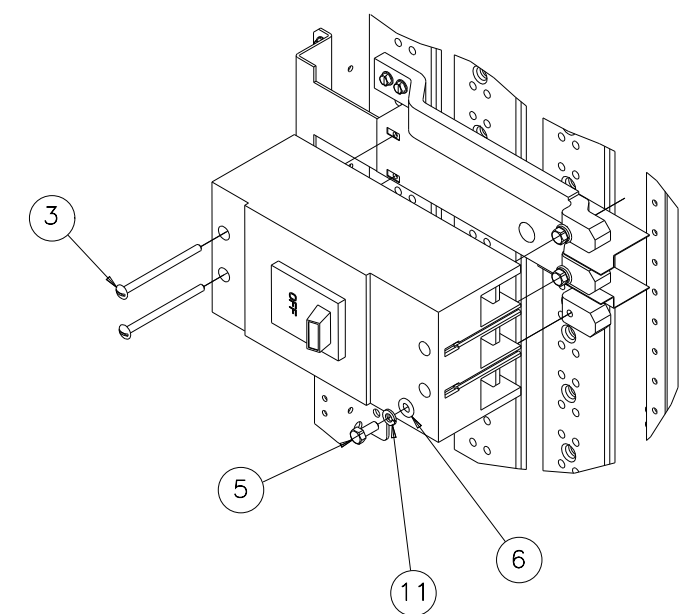

Figure 6
8. Reference fig. 6 - Installing the breaker. Insert three 5/16-18 X 3/4" hex-head bolts (item 5) along with three lock washers (item 11) and three flat washers (item 6) through each of the three contacts on the load side of the breaker and into the tapped hole at the end of the three phase connectors. Insert two 1/4-20 X 3-3/4" Screws (item 3) into the two holes toward the other end of the Breaker and into the two 0.228" diameter holes in the Breaker Mounting Bracket (item 7) and tighten securely. Torque the 5/16-18 hardware as specified on the rear of the deadfront.